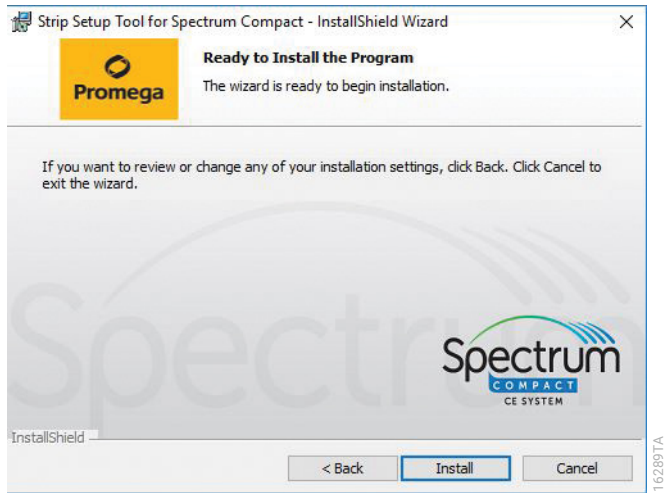

Figure 222. 'Ready to Install the Program' window.
4. The Ready to Install the Program window appears (Figure 222). Select **Install**.